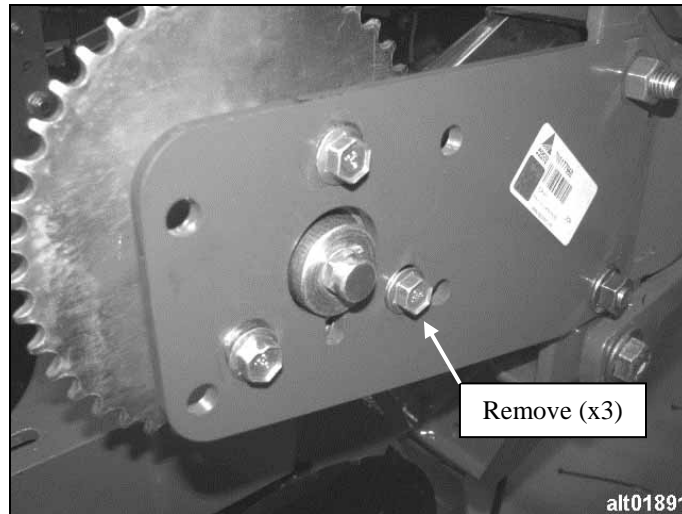

Figure 12. Original drive sprocket fasteners to remove
1. Remove (3) bolts securing seed meter drive sprocket assembly from row unit as shown in Figure 12. Original bolts and nuts will not be reused for this application.